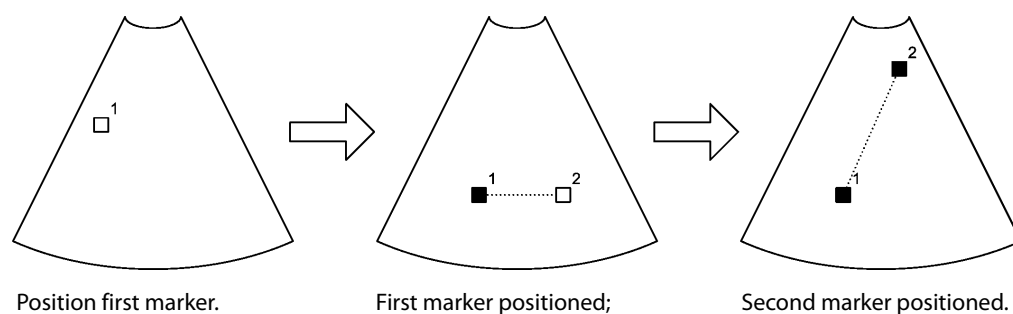

Figure 5-1. Positioning 2 markers on a B-mode or Color mode image.
**NOTE:** The small numbers (1 and 2) shown in Fig 5-1 indicate the order in which the markers appear. The numbers do not appear like this on the monitor.